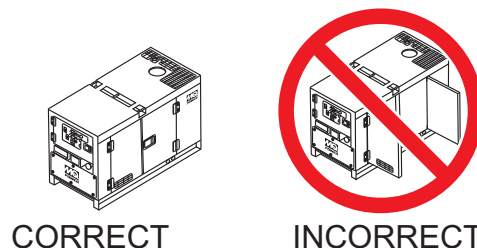

Figure 44. Engine Enclosure Doors
6. Close all engine enclosure doors (Figure 44).